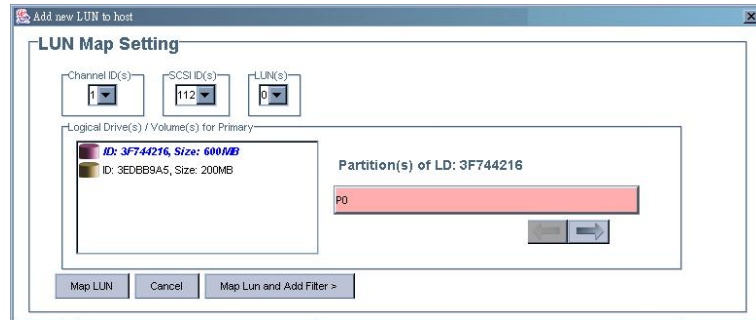

Figure 10-4: LUN Map Setting Window: Single Partition
Step 5. Click on the **Map LUN** button to complete the process. (See *Figure 10-4*)